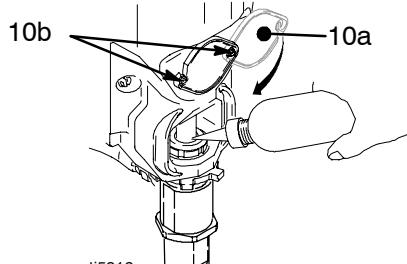

Fig. 22
7. Fig. 22. Fill packing nut with Graco TSL until fluid flows onto top of seal.